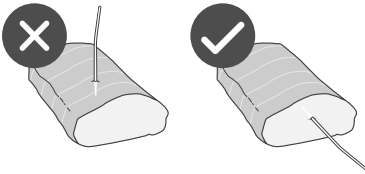

Figure 3.1
1. Insert the thermometer probe straight into the center of the **thickest** part of the meat. [Figure 3.1]